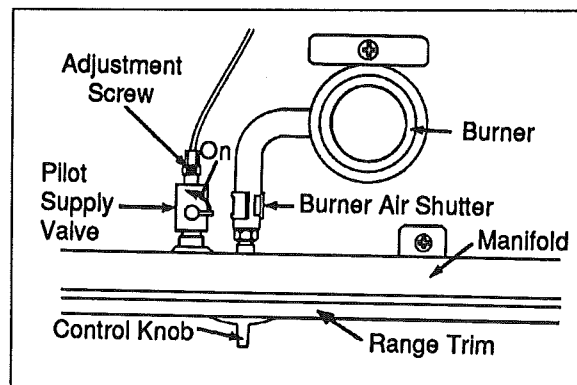

Figure 2
**WARNING:** If pilot should extinguish (after initial lighting or due to accidental blow-out), turn gas supply off and wait (5) minutes before again attempting to light the pilot.
- d. Turn pilot supply valve on (Figure 2).
- c. Wait approximately (7) seconds and push red ignitor button.
5. Check flames on top burners and oven burner; adjust air mixture if necessary. To adjust burner flame, turn burner's air-shutter (see Figure 2) to increase air mixture until flame has yellow tips but does not lift off burner ports. Then, adjust air shutter until the yellow tips of the flame are eliminated. This will provide maximum flame efficiency without flame blow-out.